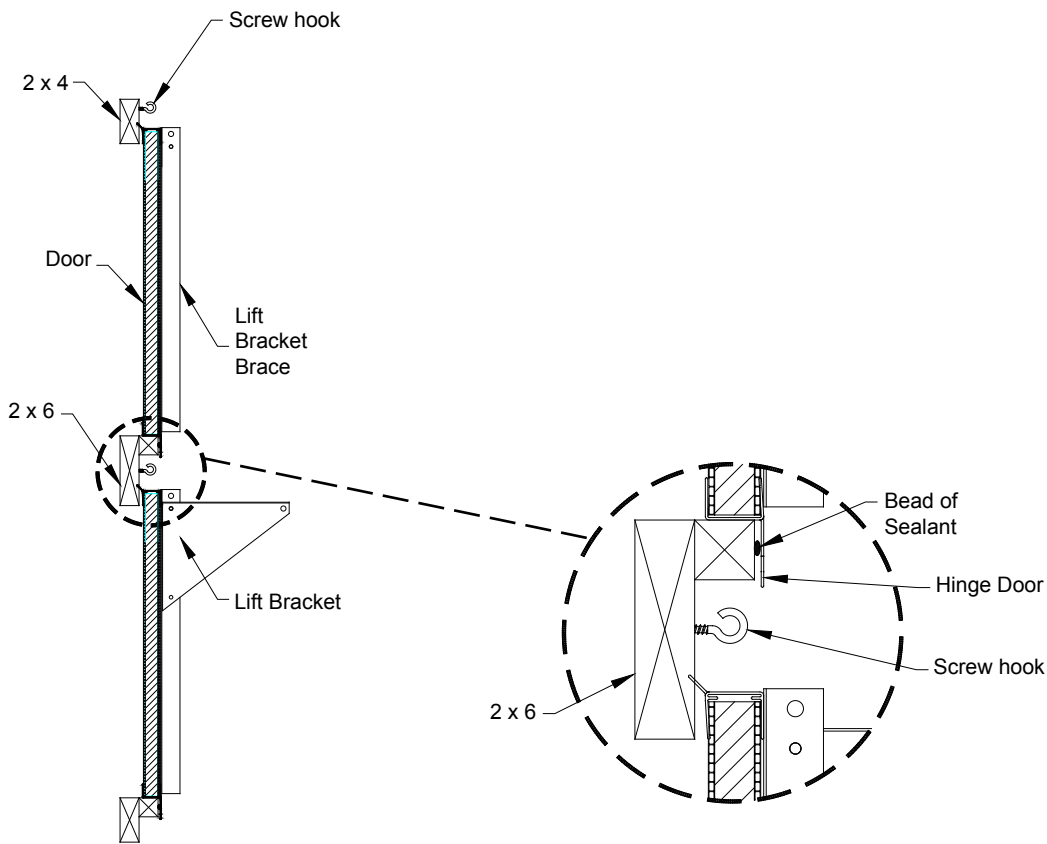

Figure 4B
13) Mid-section doors, apply a bead of sealant to the 2x2 as shown **Figure 4B, 4C** this will prevent leaks between the 2x2 and the hinge. Allow for thermal expansion when installing the doors in a temperature less than 40°F. Leaving a 1/8" to 1/4" gap between the doors will allow for the necessary expansion.